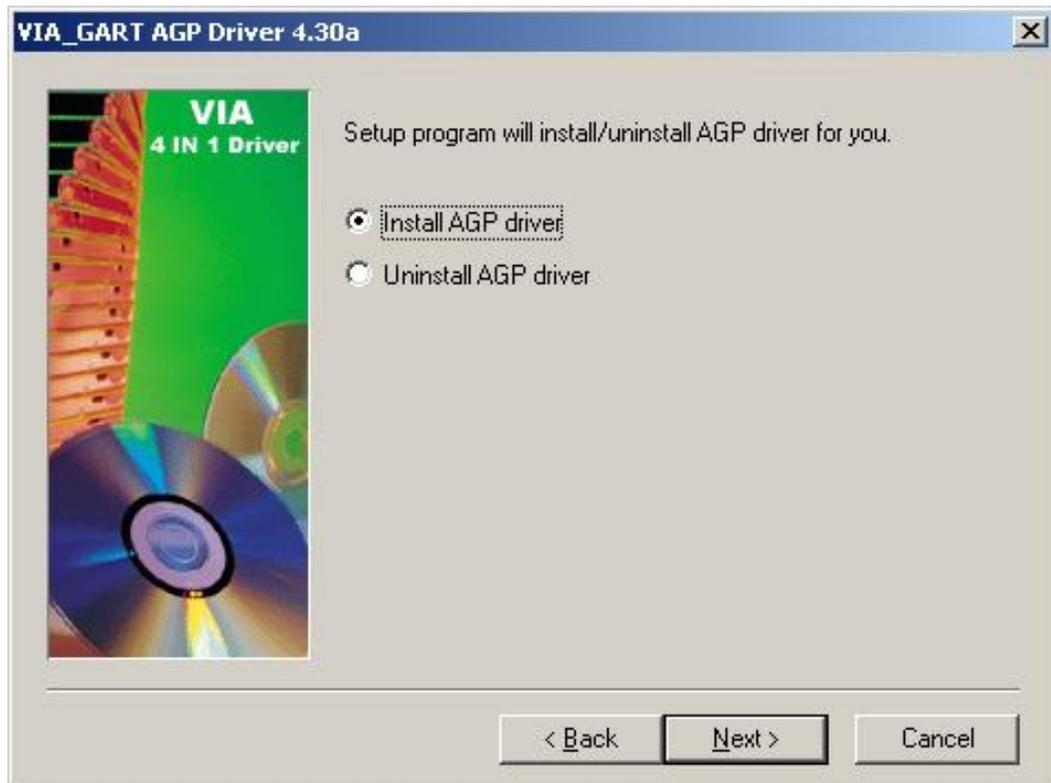

Figure 7-8: AGP Driver Selection
Step 9: The setup then prompts the user (see **Figure 7-8**) if the AGP driver must be installed on the system. Select install or uninstall. Click "**NEXT**" to continue.